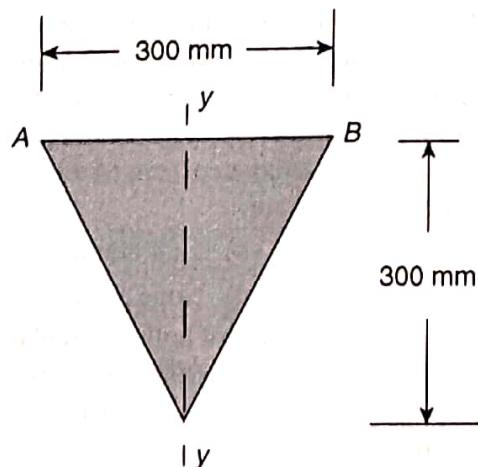

Figure 10.23 Practice Problem 2
- A short block has cross-sectional area of a triangle as shown in Fig. 10.23. Determine the range along the axis yy over which the downward vertical force could be applied at the top of the block without causing any tension anywhere in the base. Neglect the weight of the block.